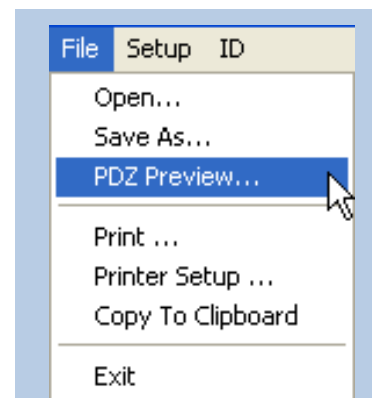

Figure 22 PXRF File Menu
1. **SELECT** *PDZ Preview* from the PXRF File menu (Figure 22).